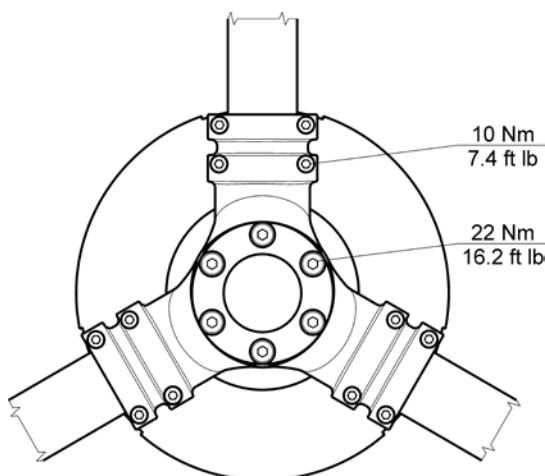

Fig. 10-26: Torque moments
- Tighten the fixing bolts (Fig. 10-26) M8 by moment 22 Nm (16.2 ft.lb.). Tighten also the fixing bolts of spacer In case it is used..
- (d) Tighten the fixing bolts (Fig. 10-26) M8 by moment 22 Nm (16.2 ft.lb.)
- (d) Tighten the bolts in this sequence: first tighten the bolts M6 on spokes of the hub by moment 10 Nm (7.4 ft.lb.) then tighten the fixing bolts M8 by moment 22 Nm (16.2 ft.lb.) (see Fig. 10-26).